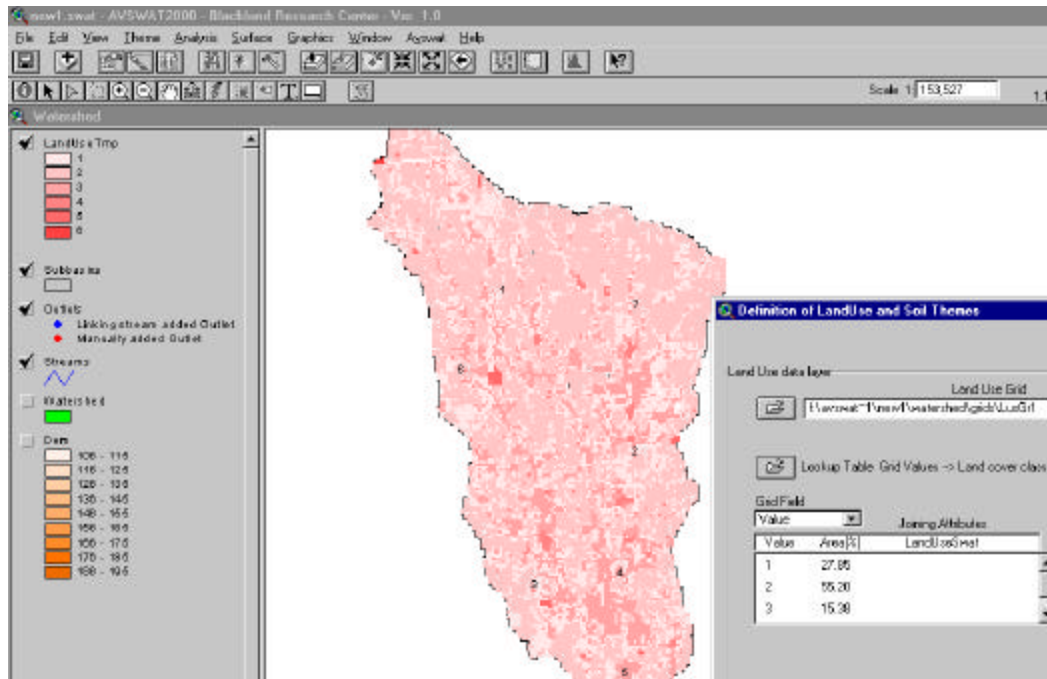

Figure 6.14
7. A new theme, *LanduseTmp*, is added to the *Watershed View*, where the user may review the results of the map processing. The path of the resulting grid is shown in the text box labeled **Landuse Grid**. The list box displays the landuse grid values with percent watershed area. The *LanduseSwat* attribute that defines the land cover/plant from the SWAT databases is blank and must be defined (Figure 6.14).